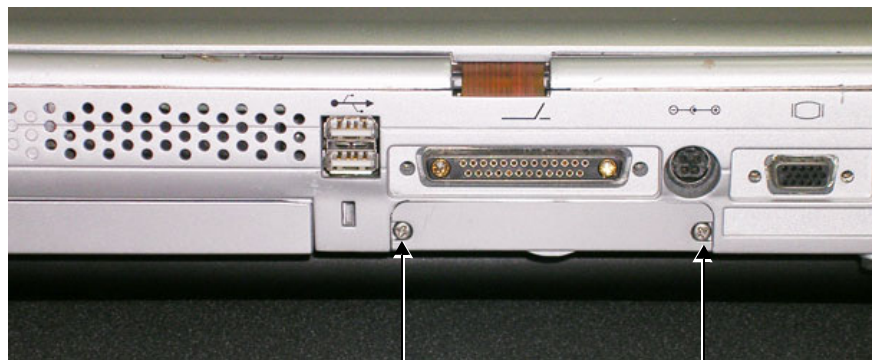

Figure 8-6 Removing the Screws from the Rear Panel
- 2) Working from the rear of the scanner (rear panel), use a small Phillips screwdriver to loosen and remove the two screws that secure the Hard Disk in the hard disk module holder, as shown in Figure 8-6 below.
- 2) Return and fasten the two screws (previously removed) to secure the Hard Disk in position - refer to Figure 8-6 on page 8-7.